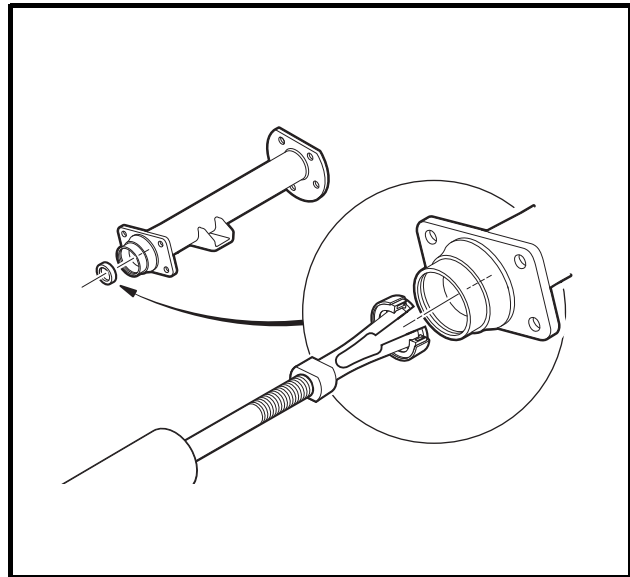

Figure 17-2 Axle Seal and Adapter Ring Removal
- 6.1. Use a bearing puller (CC P/N 1016417) to remove the axle seal and adapter ring from the axle tube (**Figure 17-2, Page 17-2**). **See following CAUTION and NOTE.**